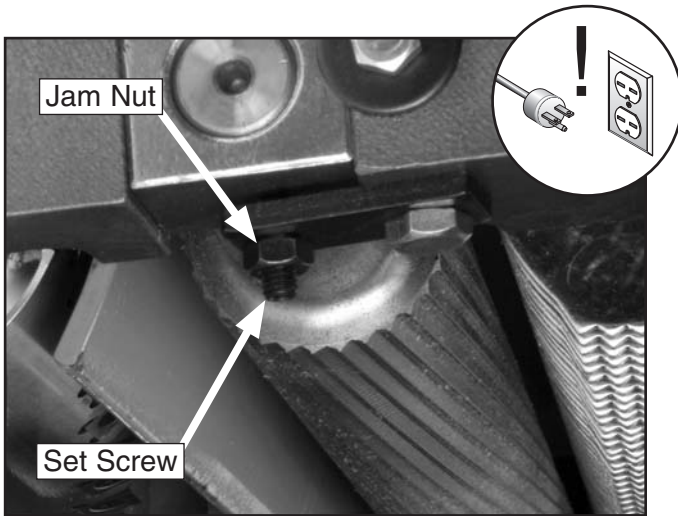

Figure 28. Roller height adjustment controls.
8. Adjust the height of the infeed roller on the same side as the Rotacator to the specification given at the beginning of this procedure, using the zero setting of the Rotacator as a reference point. **Figure 28** shows the jam nut and set screw for adjusting the roller height.
8. Loosen the feed roller adjustment screws (**Figure 28**) and turn the adjustment bolts on each end to raise the feed roller above the wood block (if necessary), then bring it back down so it just touches the wood block on both sides.